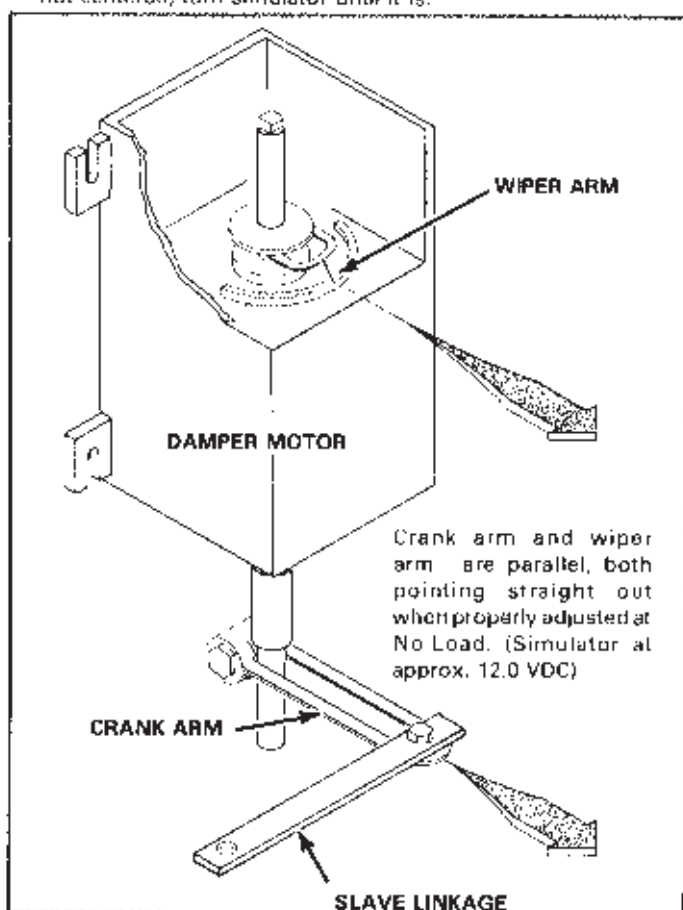

FIGURE 120
- 2 - Remove cover from damper actuator. The wiper blade of actuator should be in the position shown in Figure 120. If the wiper blade is not centered, turn simulator until it is.
**NOTE -** The crankarm must be parallel to the wiper blade. If the crankarm is not parallel, loosen coupling at actuator and reposition linkage so that it is. See Figure 120.